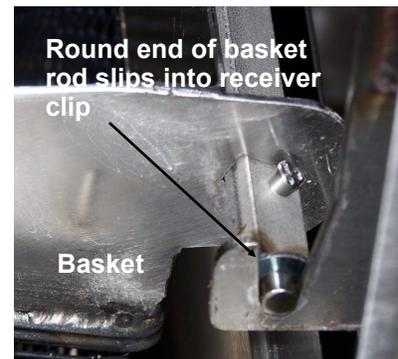

fig. 10b
- Install the round end of the basket rod into the receiver clip on the inside front of the cook chamber (fig. 10b).